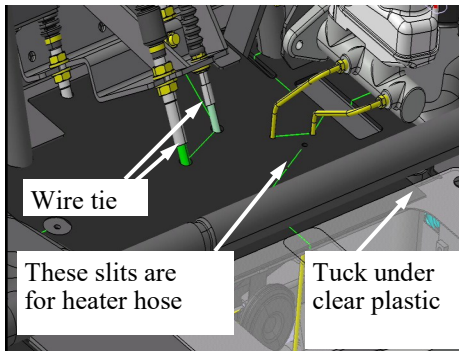

Figure 17
1. Install anti-draft barrier by working around hoses and cables (see figure 17). Note that the slots for the heater hoses (not shown) will need to be cut and folded down around the heater hoses. Install one of the wire ties provided through the grommet holes in the panel and wrap around shift cables to help hold anti-draft panel in place.